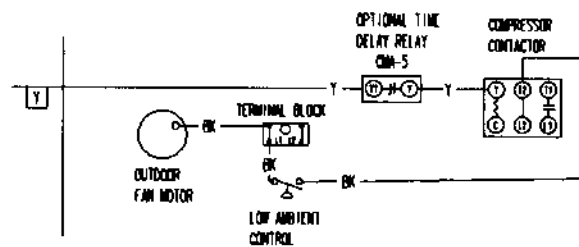

Figure 10 — Installation Instructions for CMA-6 Low Ambient Fan Cycling Control
- Step 5.** Recheck wiring. See Figure 10. Check for proper operation of the unit by energizing in cooling mode. The condenser fan motor should not run until the discharge pressure has exceeded 300 PSI. Should the discharge pressure fall below 200 PSI while running, the condenser fan motor will de-energize until the head pressure builds to 300 PSI.